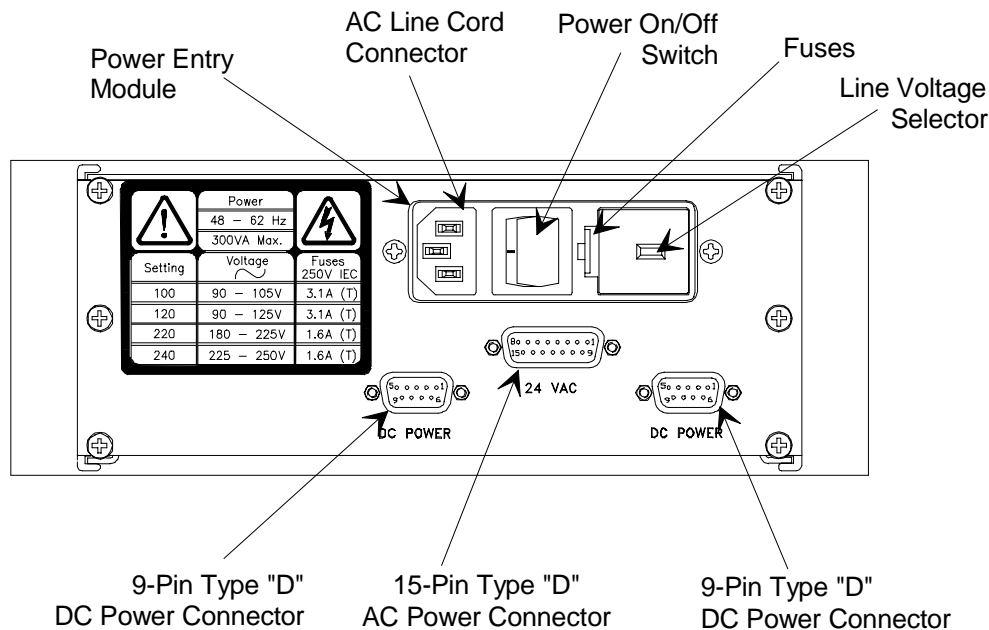

Figure 7: Rear Panel Controls
The line fuses protect the internal circuitry; both sides of the line are fused. The fuses are located in the Power Entry Module in the rear panel of the unit (refer to Figure 7, page 32). The fuse values are listed in Table 6.
The 260 PS-7 unit's three connectors are located on its rear panel (refer to Figure 7, page 32). The interface cables are listed in Table 5, page 20.
4. Connect the 1153 MFC and the Type 243 controller to the connectors on the rear panel of the 260 PS-7 unit (refer to Figure 7, page 32) using the proper interface cables.
5. Connect the AC Line Cord into the AC Line Cord Connector on the rear panel of the unit (refer to Figure 7, page 32).